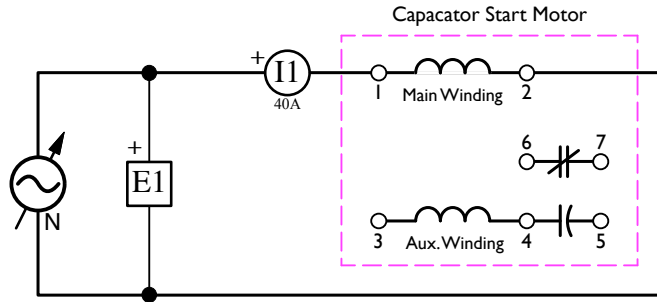

Figure 4.16: Capacitor Start Motor – Main Winding Only
- 34. Construct the capacitor start motor circuit shown in Figure 4.16.